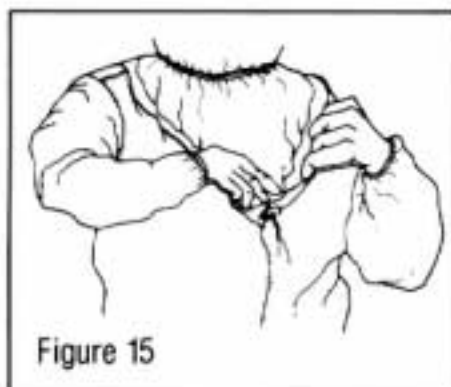

Figure 15
13. Tuck inner bib of hood into containment suit for additional splash and overspray protection (see Figure 15). Your co-worker should make sure inner bib is tucked into containment suit as far as possible on all sides.